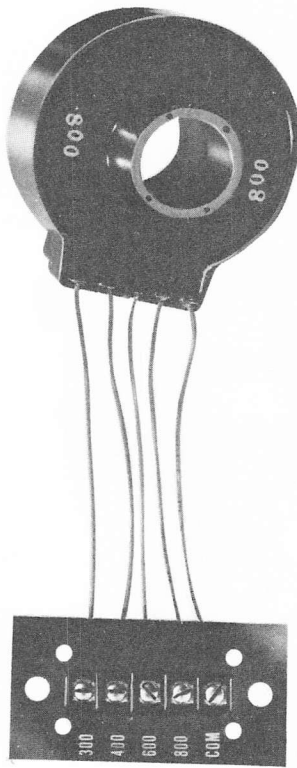

Fig. 18. SST phase sensor with tap board
**Current Sensors** - each pole mounts a single sensor coil (CT) which supplies the power and signal inputs necessary to operate the trip system. Each sensor has four taps which provide field adjustment of the trip device's continuous ampere rating. See Fig. 18.